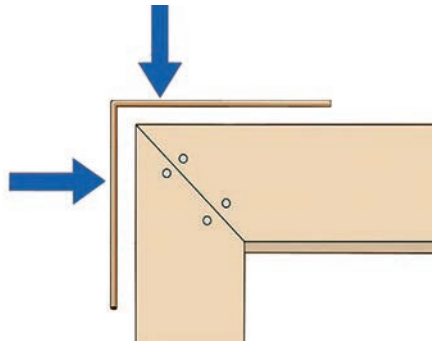

Fig. 9.34 Check for correct wire bending using a square frame
- Check the angle of the wire using a square frame as shown in Fig. 9.34.